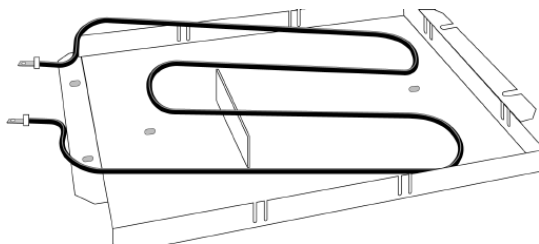

Figure 6
5. Remove the element from the pan (see Figure 6).